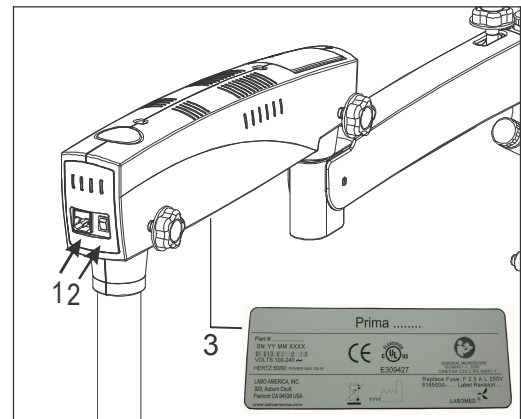

Fig. 7
Connect the power cable to the AC inlet socket (2) provided on the back of the swivel arm as shown in the fig 7.
9.1 ON/OFF switch (Shown as 1 in fig. 7 above)